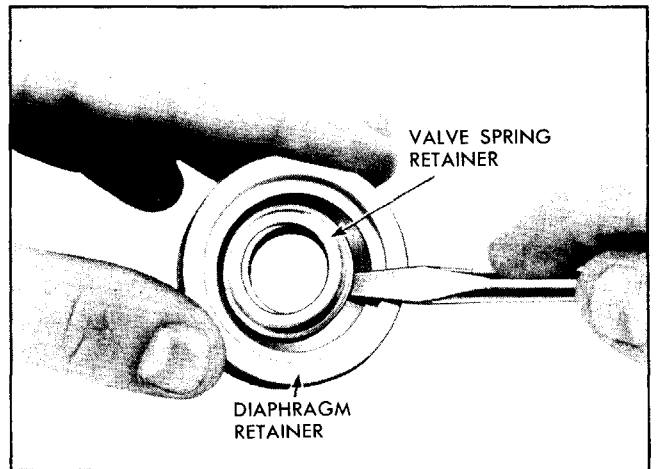

Fig. 5-63 Removing Valve Spring Retainer
1. Unseat cup-shaped valve spring retainer with small screwdriver (Fig. 5-63). CAUTION: Use care to prevent screwdriver from damaging diaphragm.